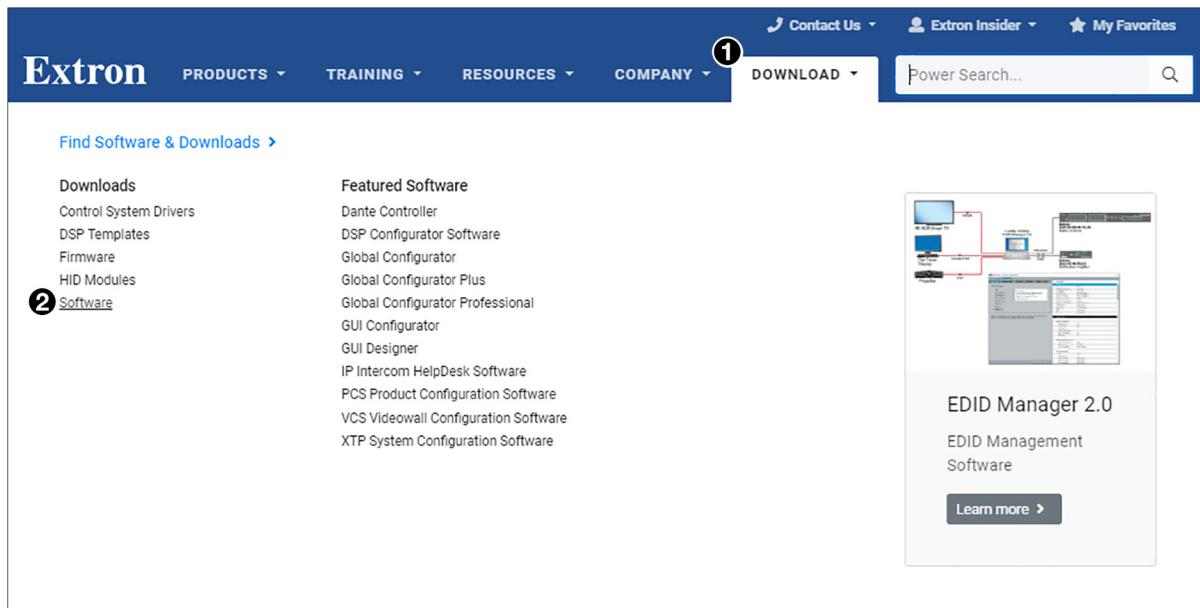

Figure 35. Download Center Page on the Extron Website
1. On the Extron website, select the **Download** tab (see **figure 35**, ①, on the previous page).
2. Move the pointer to the **Software** link (②) in the Downloads column and click it.